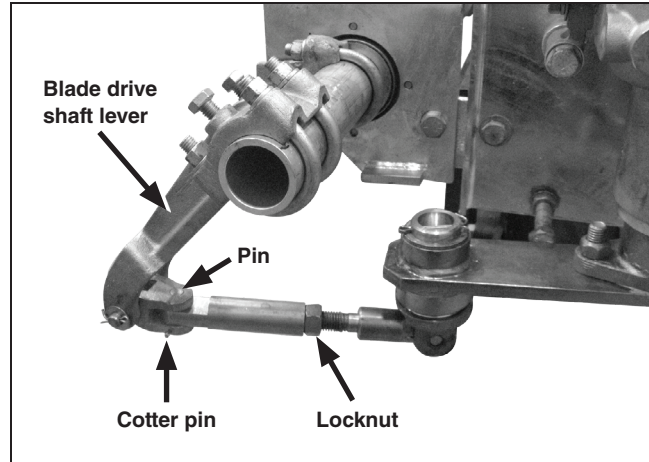
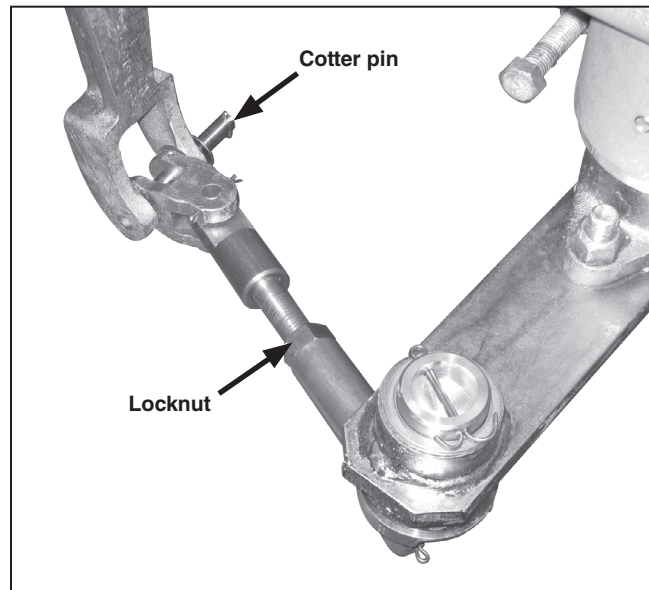

Figure 17. Blade drive linkage assembly.
Figure 18. Remove pin and cotter pin and loosen locknut.
**STEP 3.** If greater or lesser drive is needed to fully close blade, increase or decrease the effective length of the blade drive linkage assembly by removing the ½-inch diameter stainless steel pin and cotter pin which connect the blade drive shaft lever to the drive linkage assembly. See Figure 17 and Figure 18.